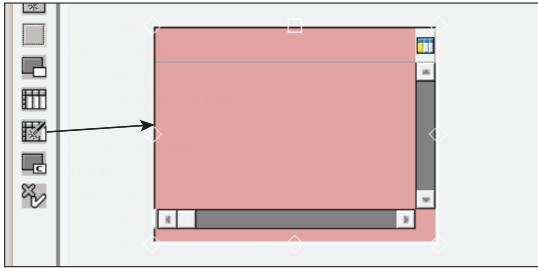

Figure 12.33 Table Control with Wizard in Work Area
1. In the graphical layout editor, select `TABLE CONTROL WITH WIZARD` and drag it onto the work area to start the wizard, as shown in Figure 12.33.